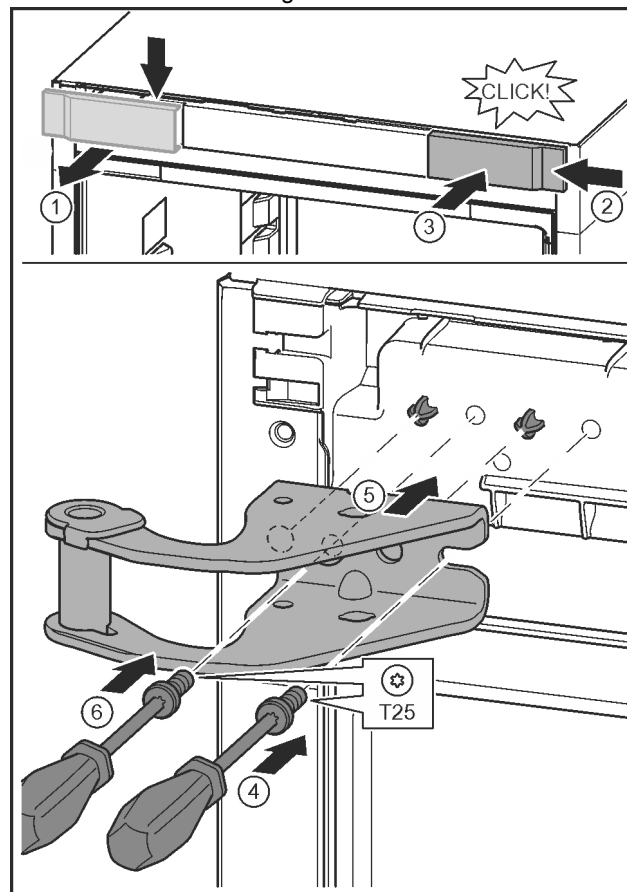

Fig. 13
- ▶ Release the cover and remove from the side. Fig. 13 (1)
- ▶ Rotate the cover 180° and clip onto the other side from the right. Fig. 13 (2)
- ▶ Click the cover into place. Fig. 13 (3)
- ▶ Position the screw with a T25 screwdriver. Fig. 13 (4)
- ▶ Position the upper bearing bracket. Fig. 13 (5)
- ▶ Tighten the screw. Fig. 13 (4)
- ▶ Insert the screw with a T25 screwdriver and tighten. Fig. 13 (6)